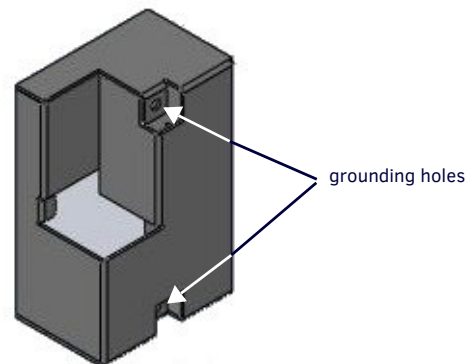

FIG. 6 RGB WALLPLATE (REAR-VIEW) WITH GROUNDING CABLE LOCATIONS
1. Use the supplied screw to connect the metal loop on one end of the grounding cable to one of the holes in the metal back box on the wallplate (see FIG. 6).